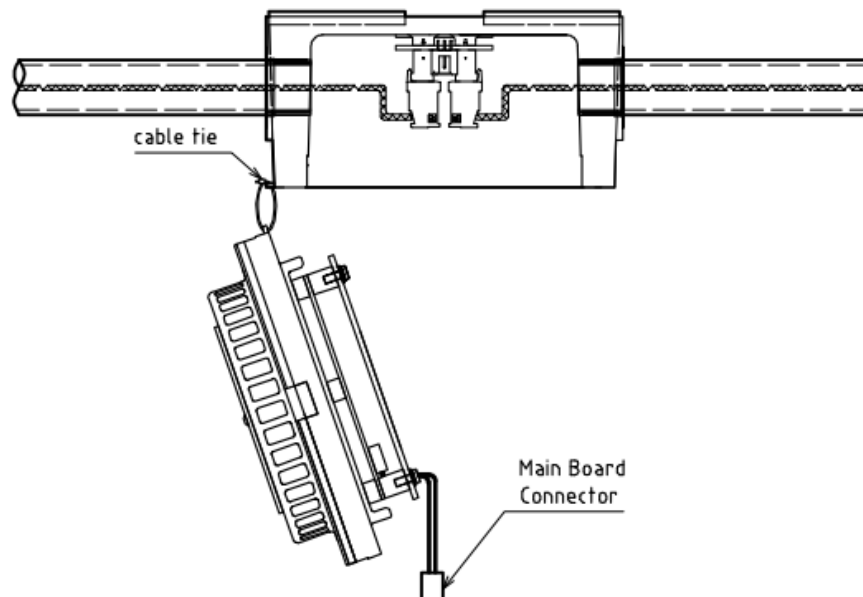

Figure 7 - Connection between main board and terminal board
- 3) Hang the cover with a cable tie on the base, and main board connector connect to CN3 of terminal board (See Figure 7).